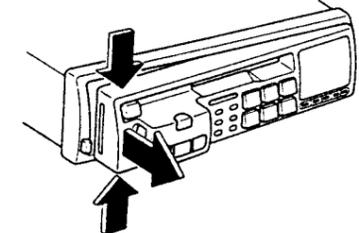

Fig. 3
3. The detachable front panel pops out. Grasp part of it and pull it off. (Fig. 3)
<Figure 3>